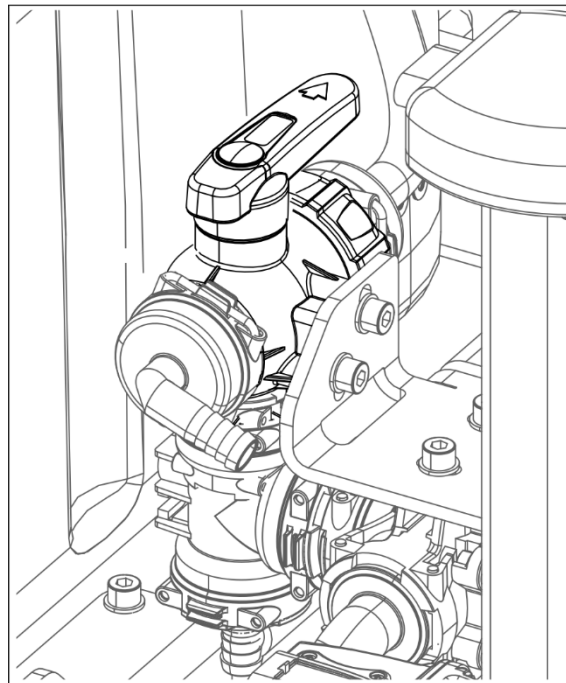

Figure31 : Three-way valve circulation
1. Set the three-way valve to circulation, see figure 31.